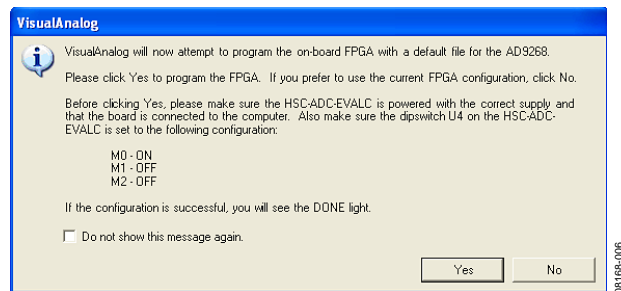

Figure 7. VisualAnalog Default Configuration Message
2. After the template is selected, a message appears asking if the default configuration can be used to program the FPGA (see Figure 7). Click **Yes** and the window closes.